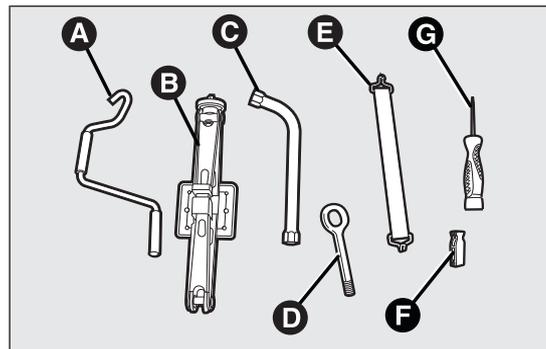
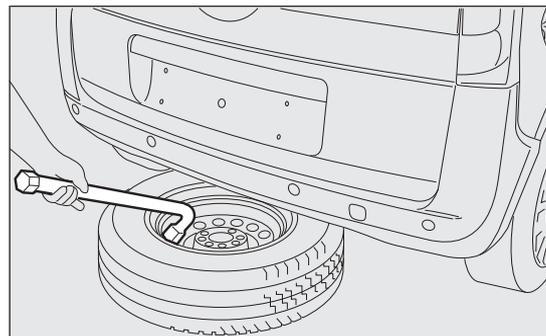
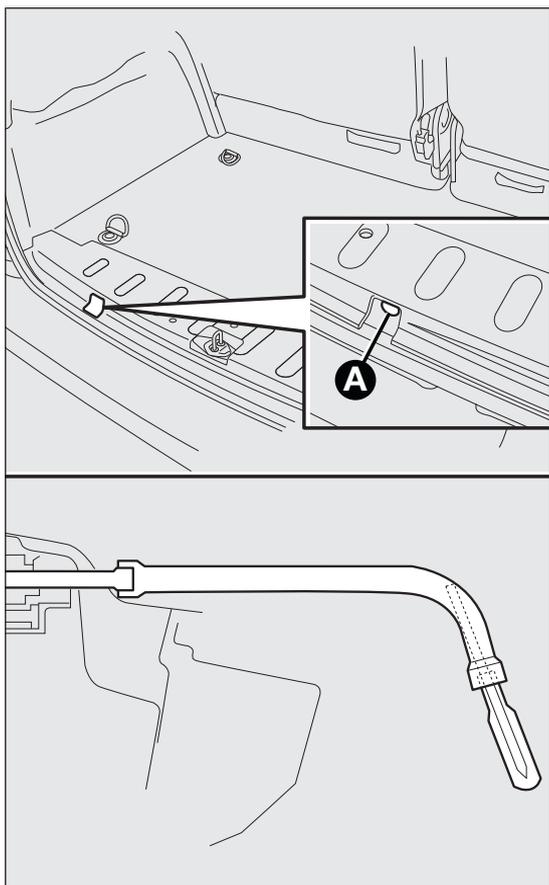

fig. 116
fig. 118
fig. 117
- the bag contains the following tools fig. 116:
- Take the wrench C fig. 116 and from inside the boot loose the spare wheel fastening bolt A fig. 117 to let it down. To reduce the effort, insert screwdriver G fig. 116 in the seat in the wrench C;
- use the wrench C fig. 116 to remove the wheel from the vehicle fig. 118;
- loosen the fastening bolts of the wheel to be replaced by about one turn, using the wrench C fig. 116;
- lift the wheel by fastening the bolt A fig. 117;